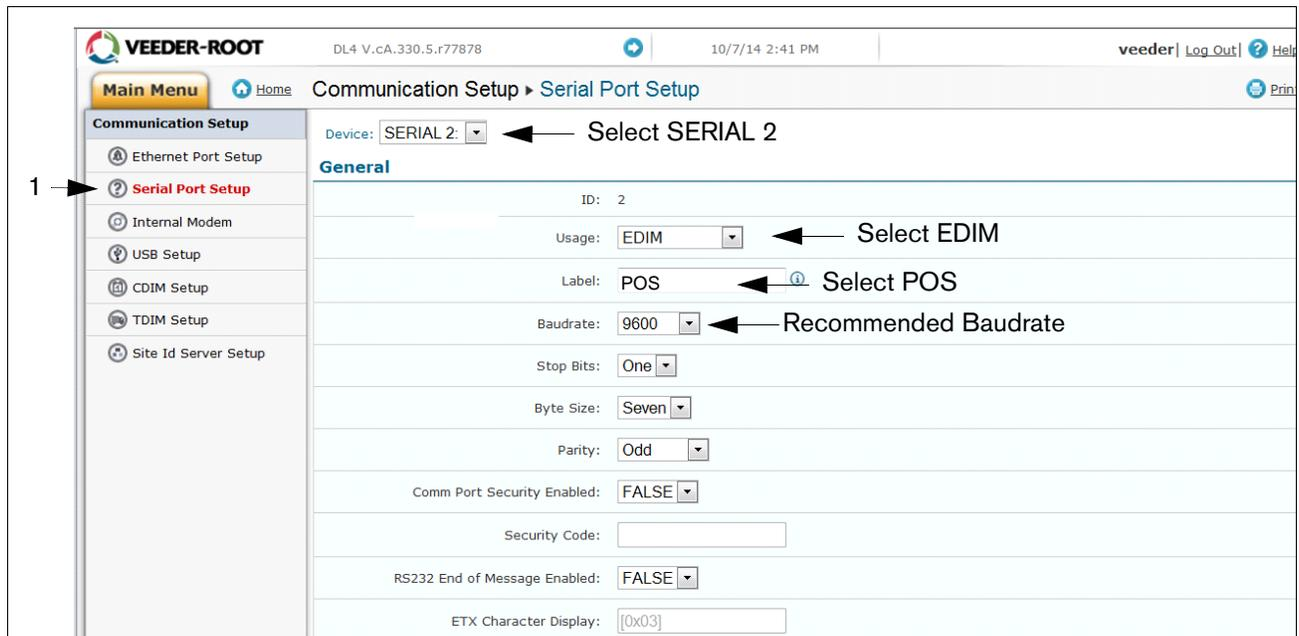

Figure B-5. Serial Port Setup, SERIAL 2-POS
- Click on “Serial Port Setup” (1) and in the “Device” field, select “SERIAL 2:”. Use this connection for the connection to the POS, and enter “POS” for the Label. Set the correct communications parameters for the POS using the drop down menus. Click the “Save” button to keep these settings (see example in Figure B-5).